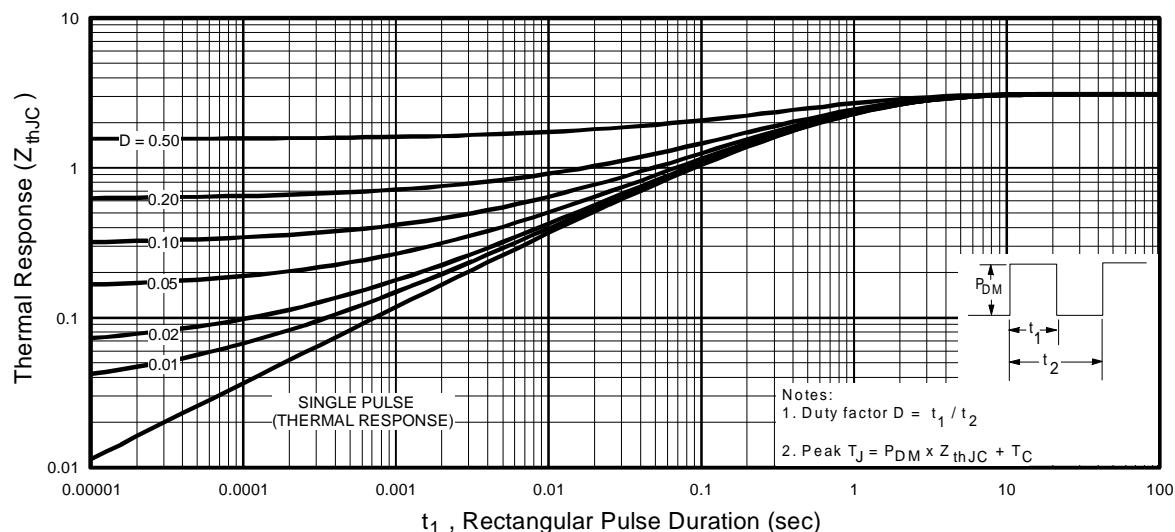

Fig 11. Maximum Effective Transient Thermal Impedance, Junction-to-Case
- ① Repetitive rating; pulse width limited by max. junction temperature. (See fig. 11)
- ③ $I_{SD} \leq 55\text{A}, dI/dt \leq 100\text{A}/\mu\text{s}, V_{DD} \leq V_{(\text{BR})\text{DSS}}, T_J \leq 175^\circ\text{C}$
- ④ $t=60\text{s}, f=60\text{Hz}$
- ② $V_{DD} = 25V, \text{ starting } T_J = 25^\circ\text{C}, L = 20\mu\text{H}$